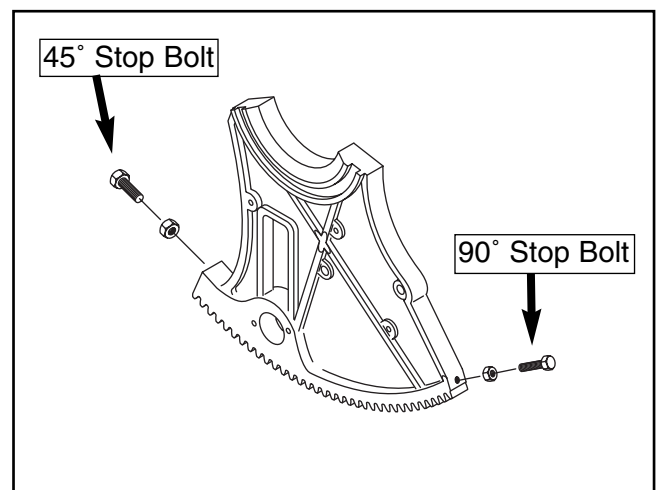

Figure 40. Geared trunnion.
3. Adjust the handwheel until the square is flush with the blade. Loosen the tilt indicator arrow, set to zero, and retighten. Loosen and adjust the stop bolt on the left side of the front trunnion to allow a 90° stop point. See **Figure 40** for details.